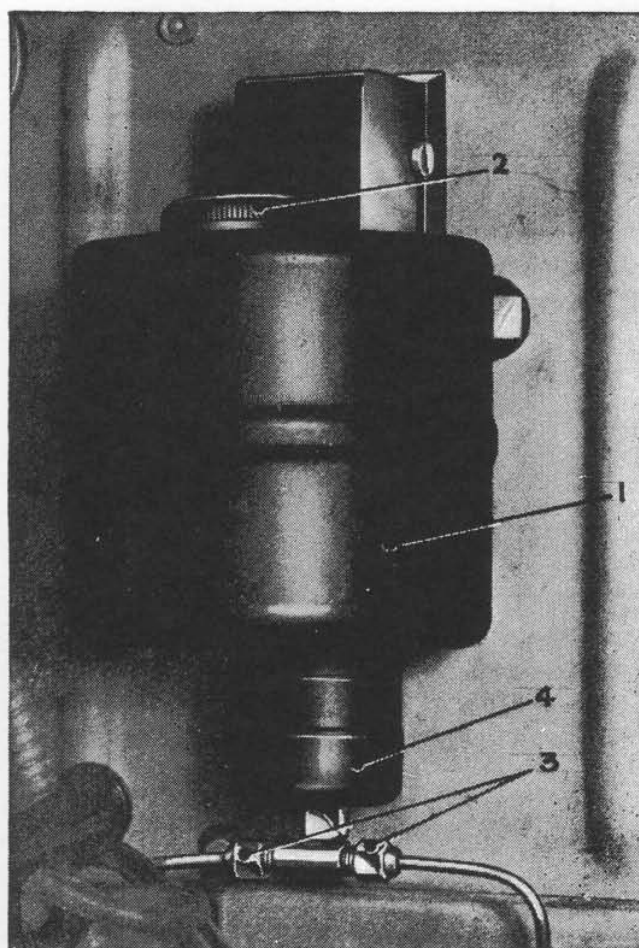

Fig. 4.—CHASSIS OIL PUMP AND RESERVOIR
The chassis oil pump is shown in Fig. 4. Normally no attention to the system is necessary beyond filling of the reservoir with the correct oil (see page 28), after removal of the filling plug (2), as directed on page 29.